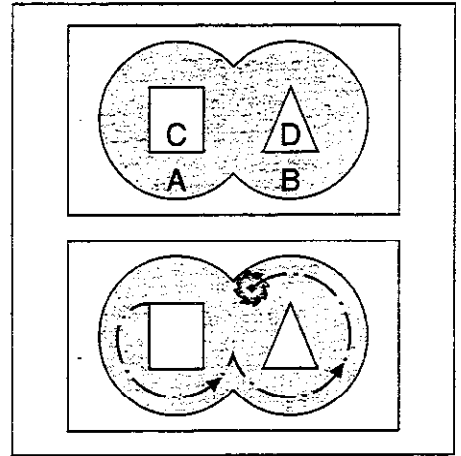

Fig. 8.39: Cutter path for ROUGH-OUT.
- First the island contours (*C* and *D* in figure 8.39) are rough-milled until the pocket contour (*A*, *B*) is approached.